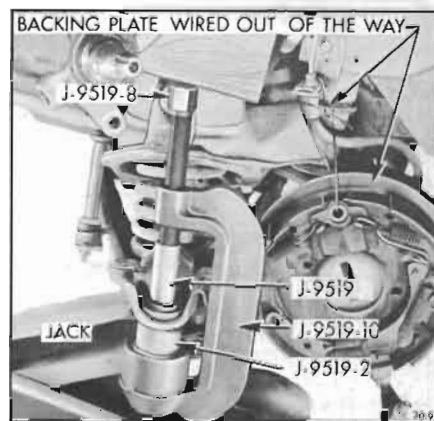

Figure 30-9—Lower Ball Joint Installer in Position
1. Position ball joint in lower control arm and install Tool J-9519 as shown in Figure 30-9. Note that the larger O.D. portion of Tool Detail J-9519-17 is positioned in Detail J-9519-10.